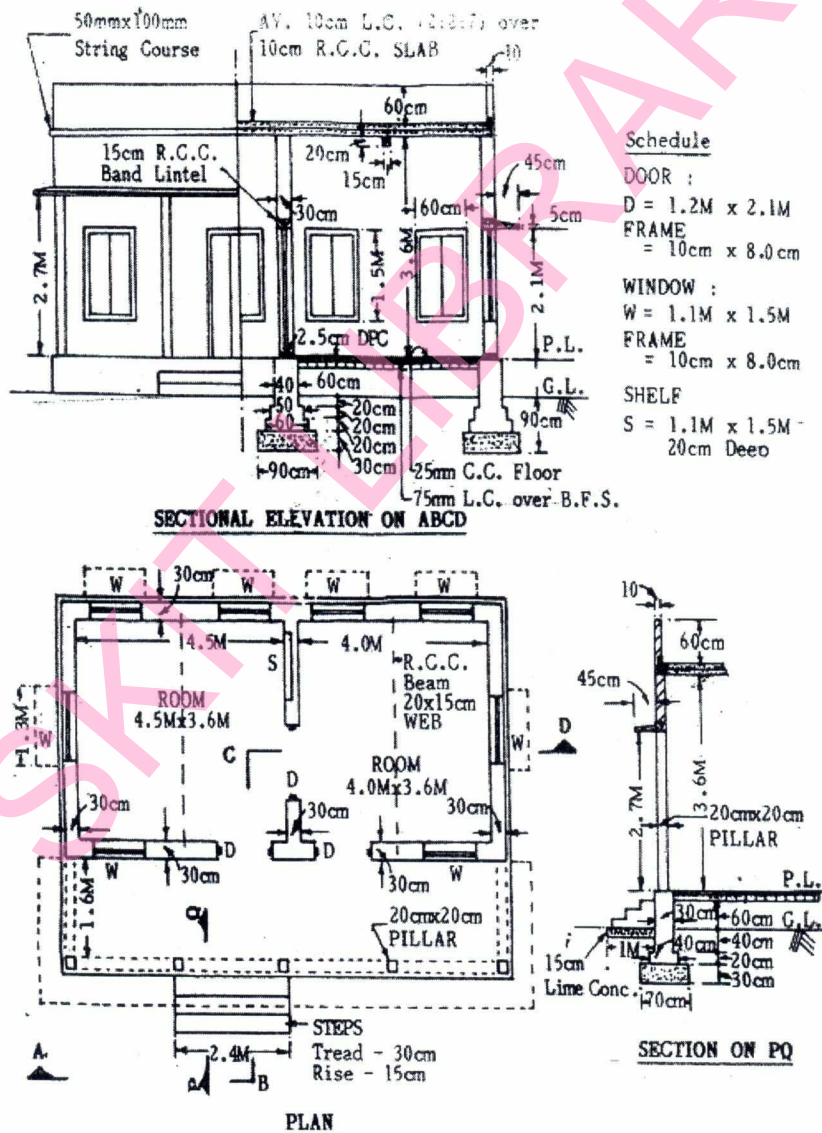

Fig.Q1.
- 1 Prepare a detailed estimate for a residential building shown in fig. Q1 for the following items of work.